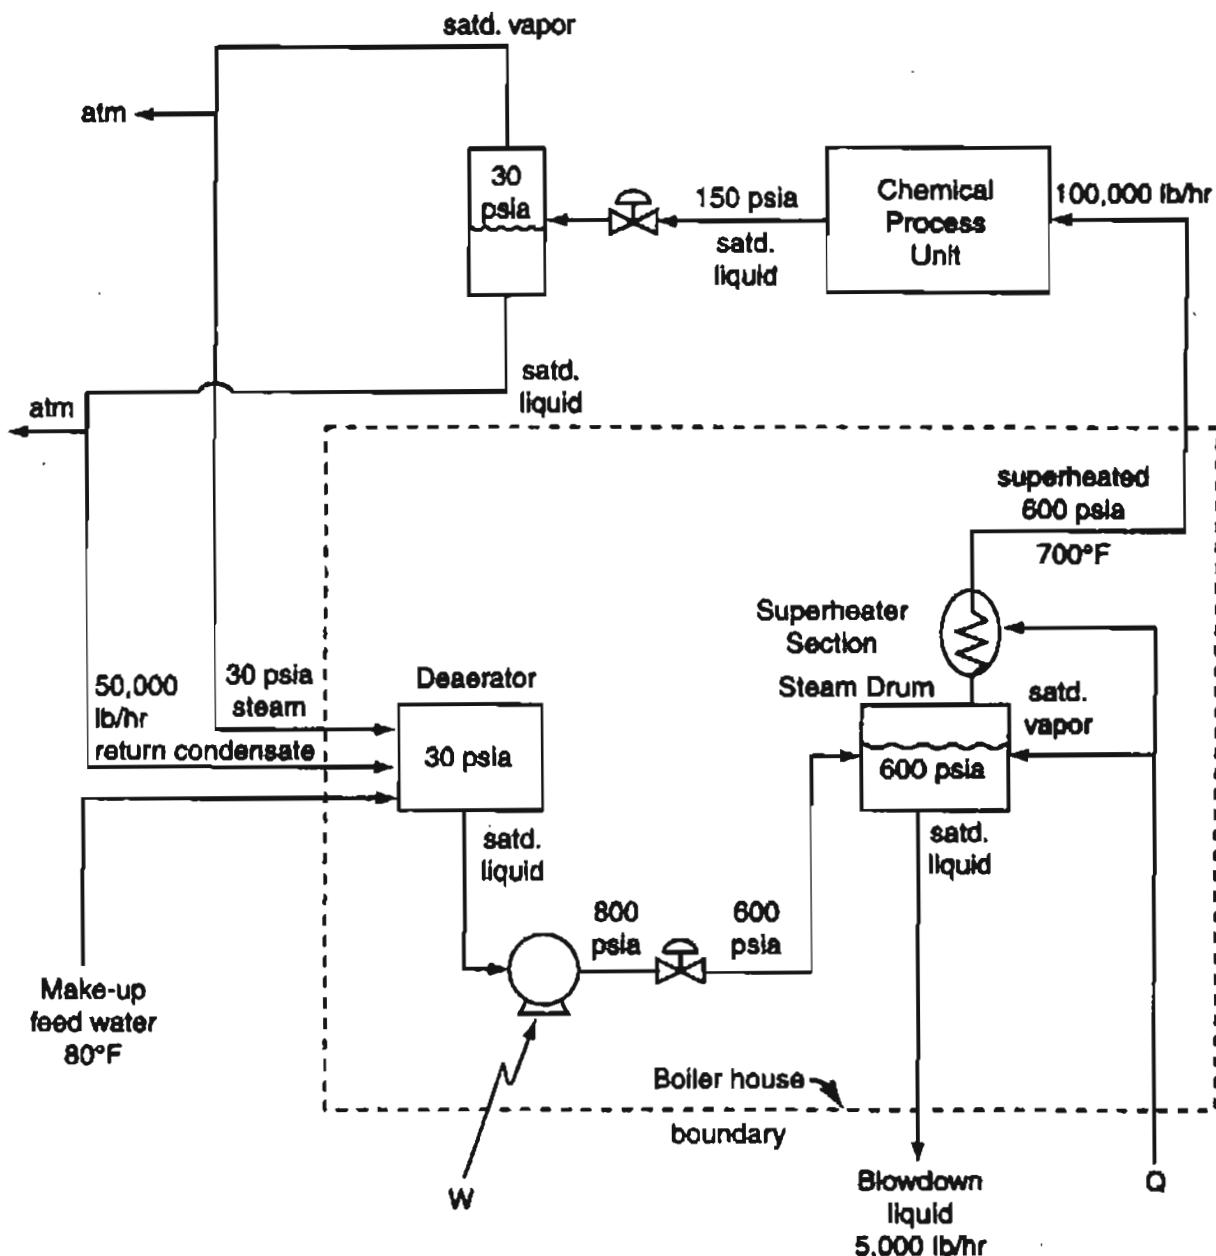

Figure P24.39
- ***24.39 A boilerhouse flowsheet for a chemical process plant is shown in Figure P24.39. The production rate of 600 psia superheated steam is 100,000 lb/hr. The return condensate flowrate is 50,000 lb/hr. Calculate the: